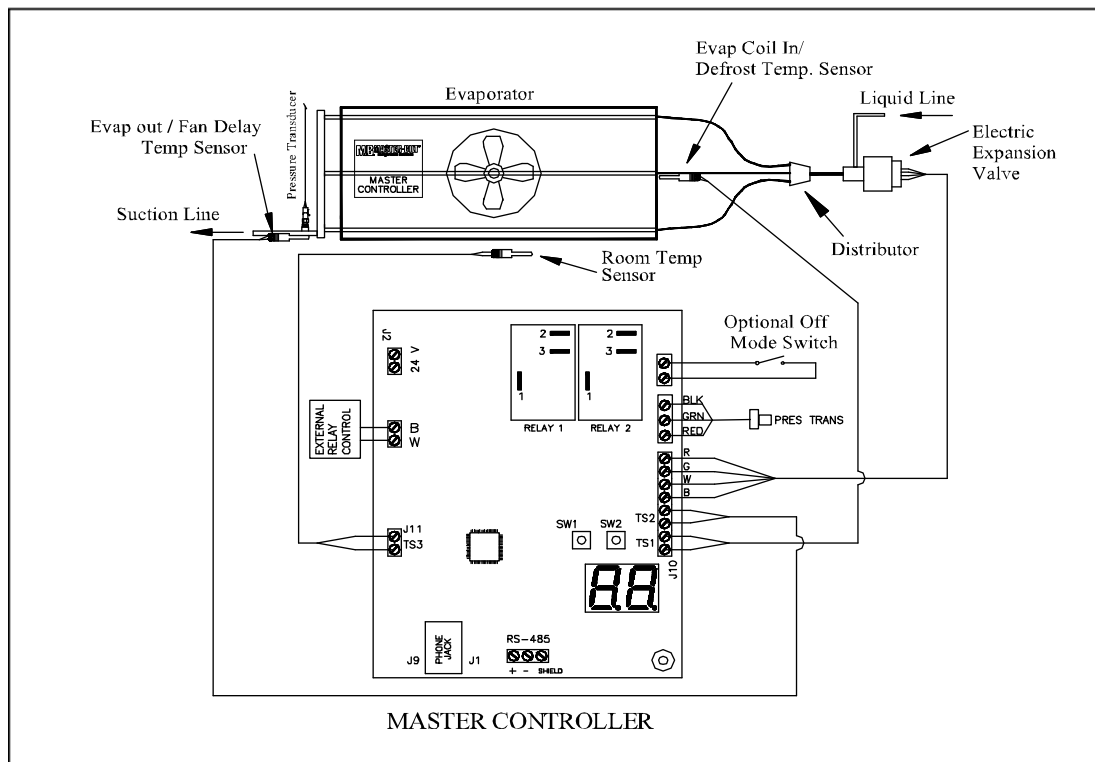

Figure 2.
- **Defrost Termination Temperature Sensor TS1** is mounted downstream of the distributor tube after the valve and close enough to the evaporator coil to measure defrost termination temperature during defrost cycle. Figure 2 on the previous page shows the sensor locations of the evaporator and the controller.
- An external relay, which controls a liquid solenoid valve, is mounted on board (in the evaporator) with an **electric defrost system**. It is mounted in the condensing unit on a **reverse cycle defrost system (see p. 23)** to control compressor contactor. A 4-way reversing valve, operating at 24 VAC, is installed in a reverse cycle defrost equipped unit. A transformer is also installed in the Master evaporator to supply 24VAC to the 4-way reversing valve. The external control relay has a 12VDC coil and is wired at B and W terminals on the left side of the controller board as illustrated in Figure 2.